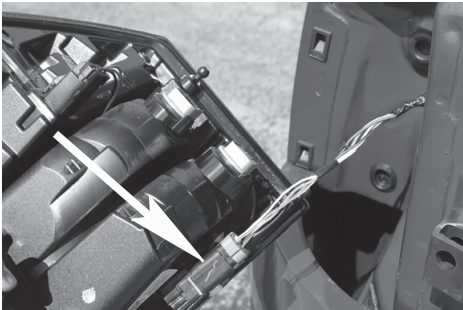

Figure 2
3. Gently pull taillight away from the vehicle and locate vehicle's factory wiring harness connectors shown in Figure 2. They will be similar to those on RV Harness. Slide red connector lock and separate connectors from both sides and set aside. Inspect connectors for dirt and debris and clean if necessary.